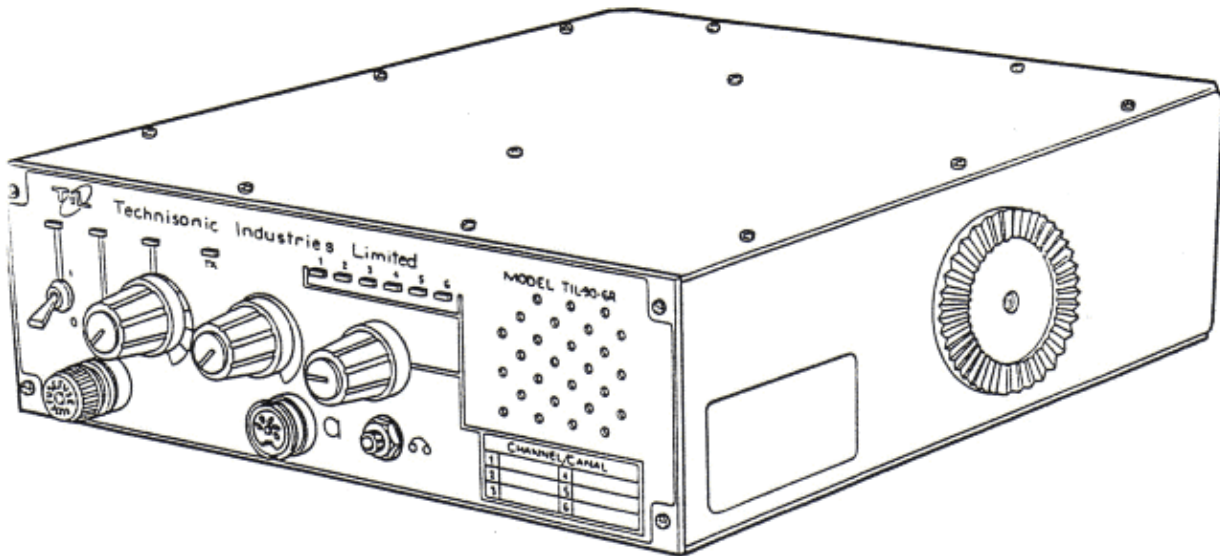

Figure 1.1 Transceiver - General View
- (1) **Intended Purpose and Use** - The system is intended for installation in airport service vehicles, such as cars, snowploughs, and grass cutters, to allow ground control over such vehicles while they are negotiating aircraft manoeuvring areas.
- (2) **Brief Description of System Units** - VHF/AM Mobile Transceiver System 860605, Opt.8.33 consists of the following items:
- (a) Transceiver Model 90-6R/8.33, Part Number 861605-2 with Opt. 8.33, is a low power VHF/AM transceiver which operates in simplex on six pre-programmable frequency synthesized channels, with 25kHz or 8.33kHz channel spacing in the frequency range 117.975MHz to 138.000MHz. The transceiver operates from a 12 volts dc nominal vehicle power supply (negative ground only). An optional internal dc to dc power convertor, P/N 863118-1 is available to allow operation from 10.8-30.0 Vdc. A general view of the transceiver is given in Figure 1.1. The transceiver is normally located under the dashboard of a vehicle using a mounting bracket and mounting hardware.